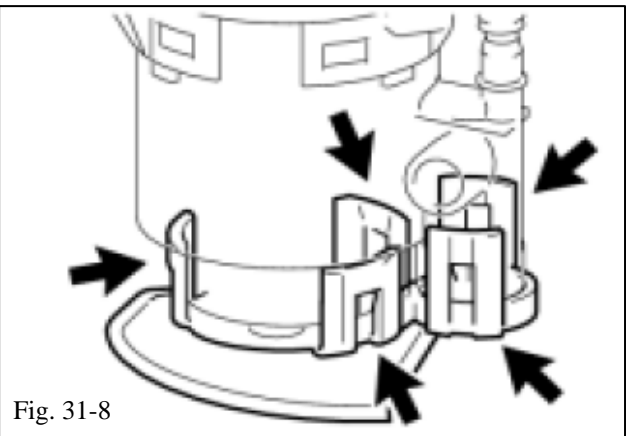

Fig. 31-8
- (h) Use a small screwdriver to detach the 5 claws from the claw holes and disconnect the fuel pump from the suction plate with filter (Fig. 31-8).